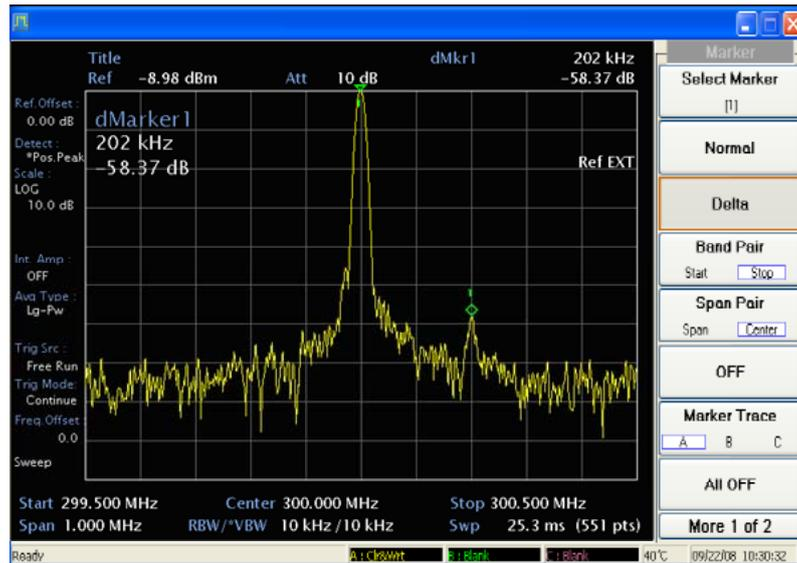

Fig. A-5 Signal resolution with a 10 kHz resolution bandwidth
- 4 Set the 300 MHz signal to the reference level by pressing [PEAK], then [MKR >], [Marker→Ref]. If a 10 kHz filter with a typical shape factor 15:1 is used, the filter will have a bandwidth of 150 kHz at the 60 dB point, the half-bandwidth (75 kHz) is narrower than the frequency separation, so the input signals will be resolved: see Fig. A-5.